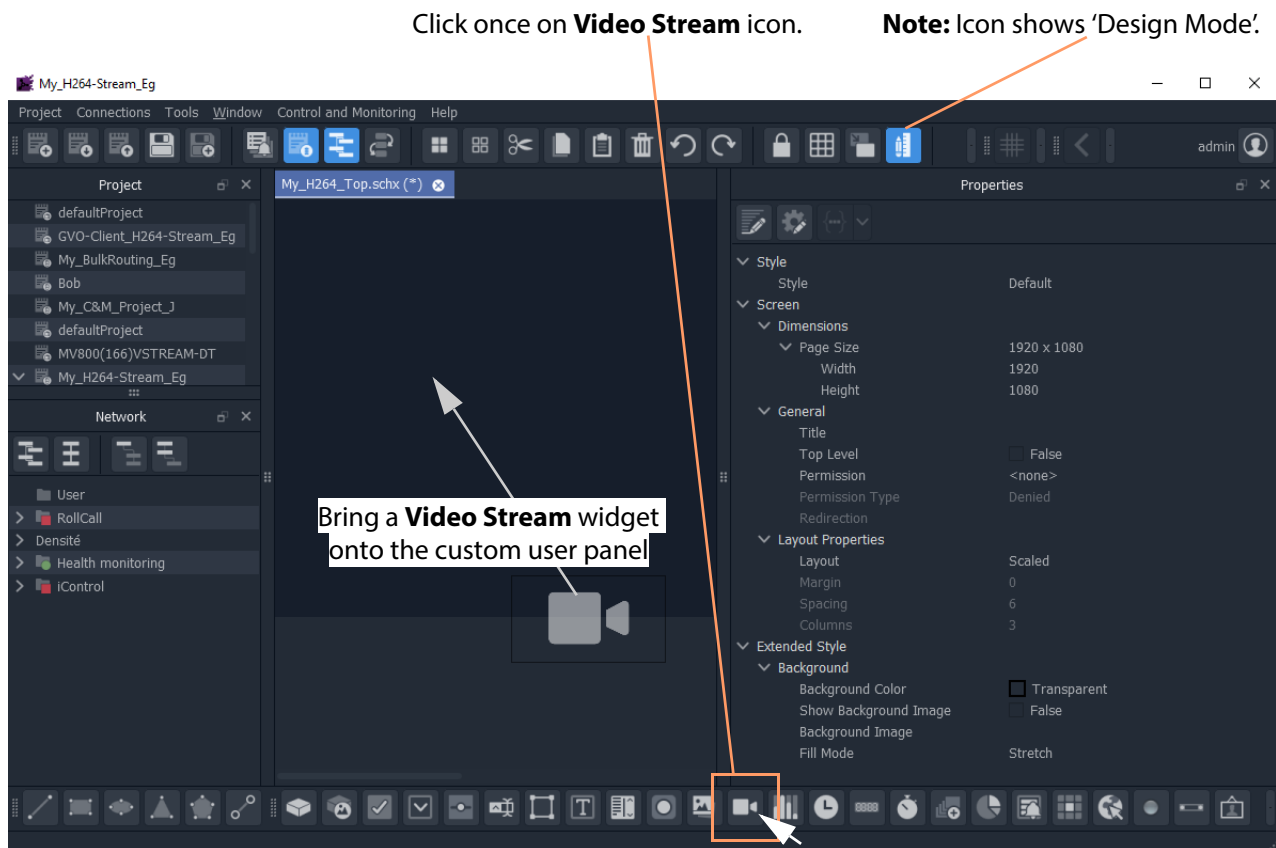

Fig. 4-6: Adding Video Stream Widget
Note: The GV Orbit Client should be in 'Design Mode' (see tool bar icon in Figure 4-6).
- 4 Click once on the **Video Stream** widget icon at the bottom of the screen, see Figure 4-6.